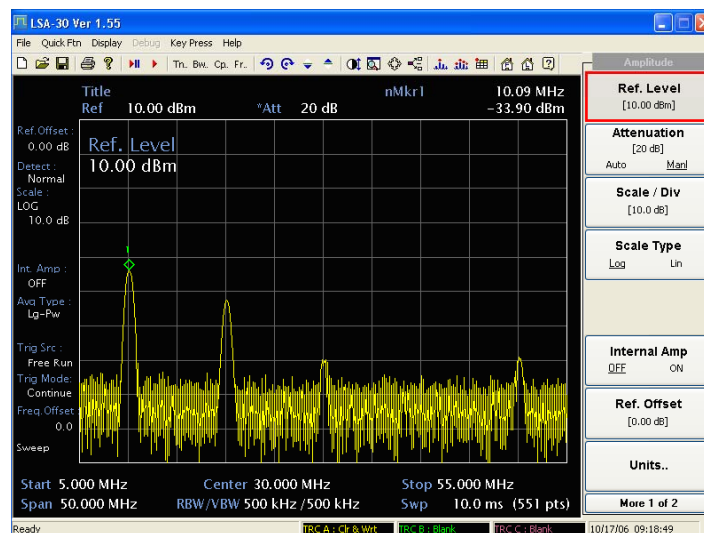

Fig. B-1 Placing a marker on the 10 MHz signal
- 4 Press [Peak] to place a marker at the highest peak on the display (the *[Next Pk Right]* and *[Next Pk Left]* soft keys are available to move the marker from peak to peak). The marker should be on the 10 MHz reference signal, as shown in Fig. B-1.